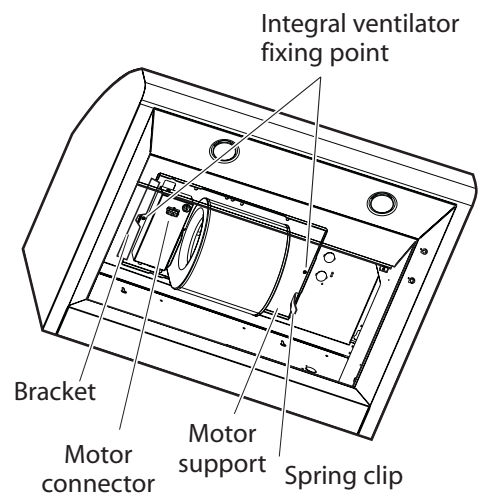
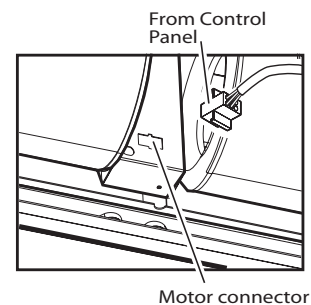

FIG. 9
FIG. 10
The Integral ventilator can be mounted to discharge air as shown in Figure 9. From the inside of the hood, slip motor into the bracket on the left. Rotate motor upwards until it snaps into the spring clip on the right.
1. Connect the Integral Ventilator moxex plug connector to the connector present inside the hood as shown in Figure 9 or Figure 10.